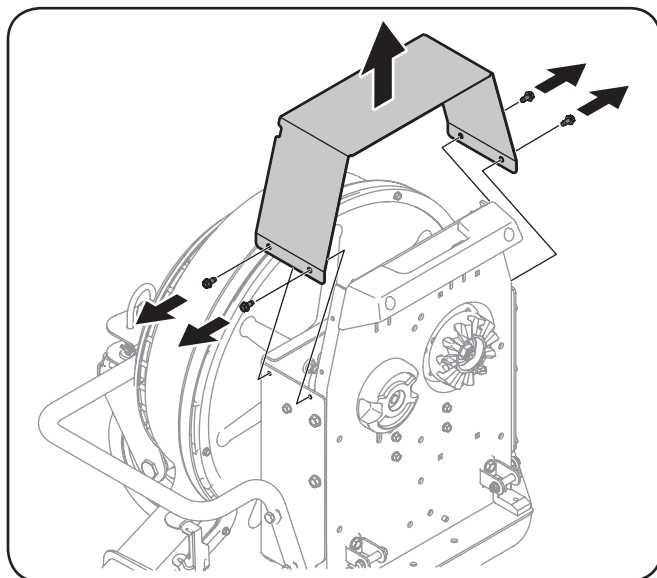

Figure 5-1
2. Remove the four tap screws that secure the top blower cover as shown in Figure 5-1.